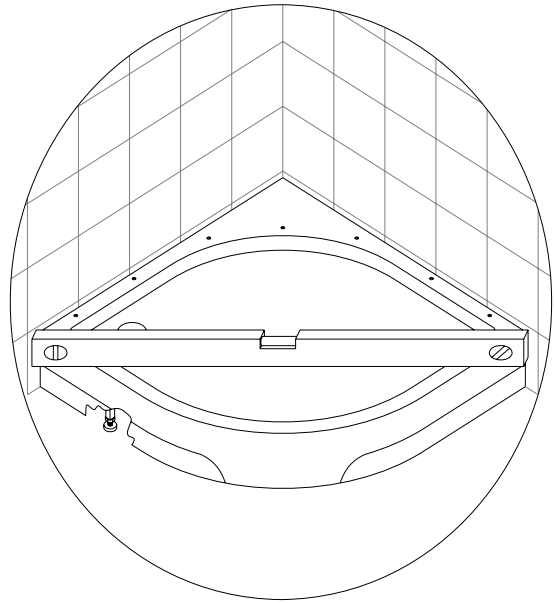

Fig 4
7. Place the tray in the required position. You may need to take off the front skirting panel for easy access. Adjust the legs to level the tray in case the surface is uneven. Fasten the counter nuts on the legs to secure the height (fig 4);